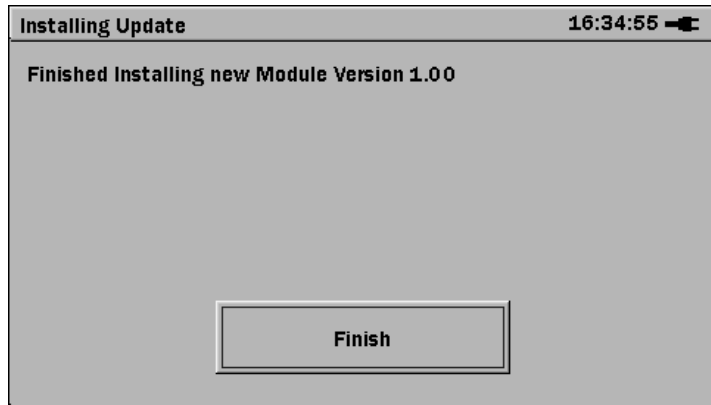

Figure 6.1-4 Finished button
7. The installation is complete when the Finish button is displayed (Figure 6.1-4). Press the **Set** key to finish the firmware version upgrade.